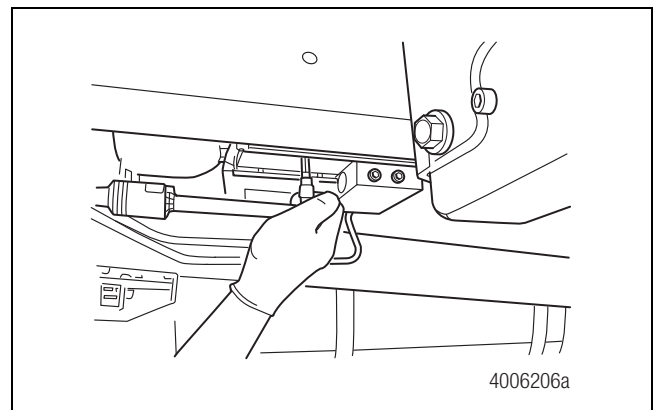

Figure 4.35
2. Insert the pump retaining plug into the threaded hole. Use a 6 mm hex-head socket wrench to tighten the plug to 195 ± 18 in-lb (22 ± 2 N•m). Figure 4.35.